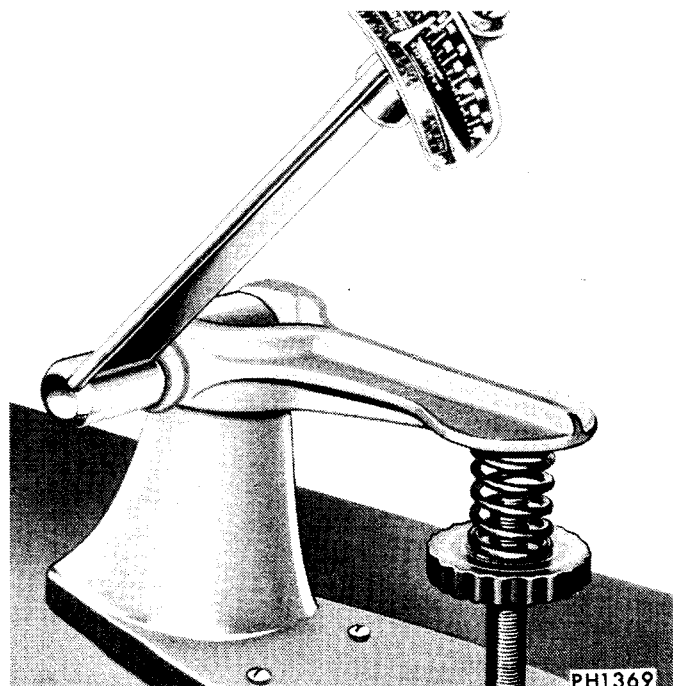

Fig. 4—Pressure Spring Test
(1) Place springs in Tool C-647 and install a torque wrench and check tension. Refer to Specifications to obtain minimum and maximum tension for each spring.
(2) Care should be taken to have table on Tool C-647 adjusted to specified height. Multiply the reading by two. Discard all springs that do not meet specifications (Fig. 4).